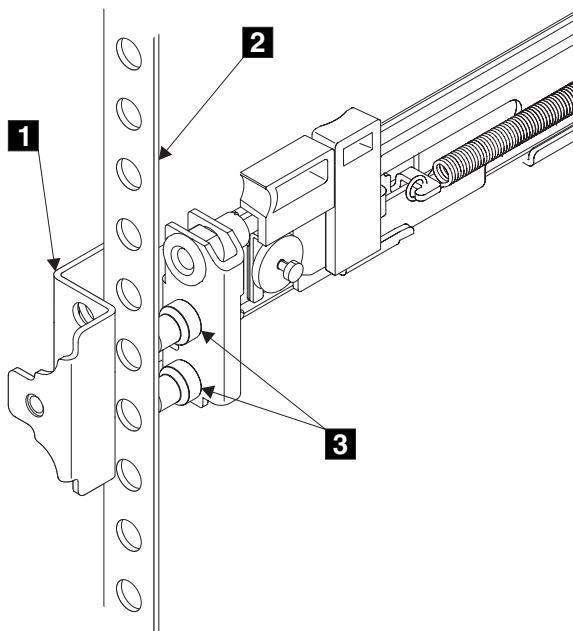

Figure 44. Installing the front end of the rail
6. Place the front end of the left rail in the rack cabinet. Align the top of the front bracket **1** (Figure 44) with the required EIA marking that is on the rack.